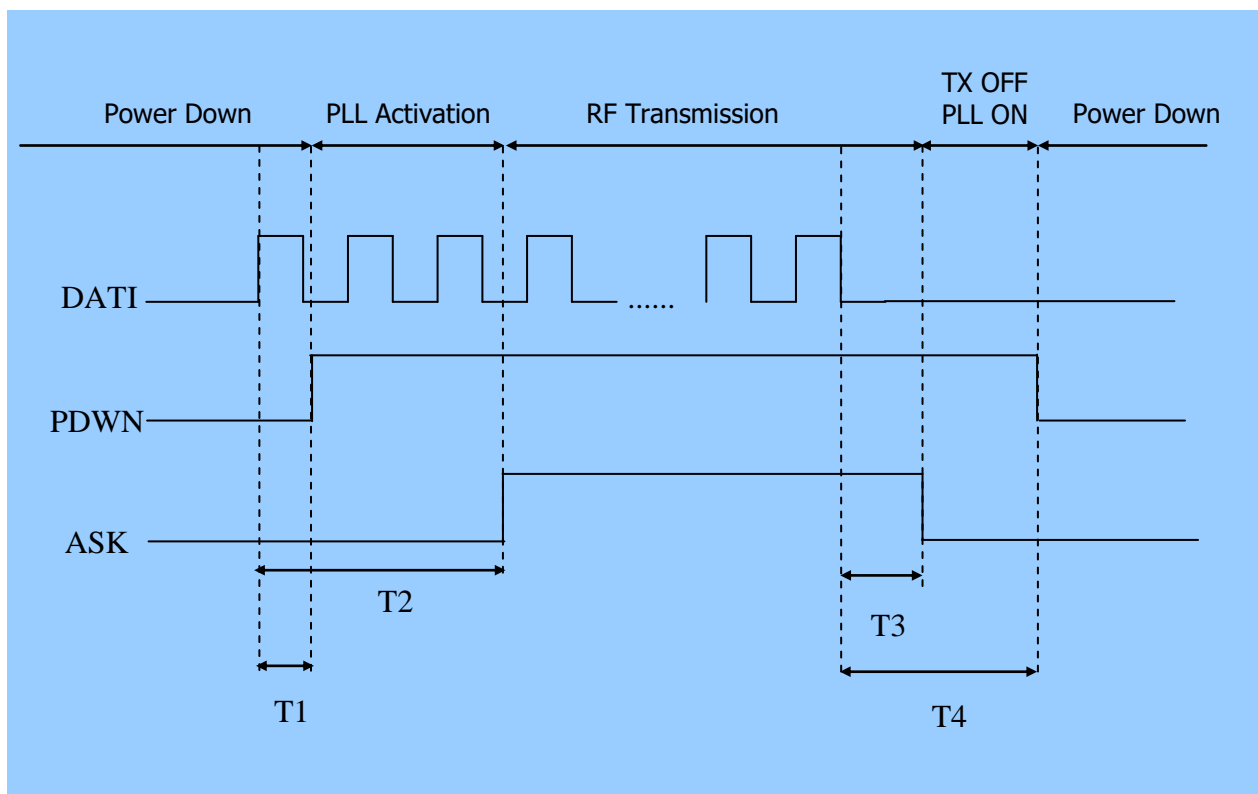

Fig.2
NOTE: only the signal DATA is available to pin 1 of the module, while the signals and ASK PWDN highlighted in the diagram time (Fig 2) are internal to the module, thus not available from the pins of the module itself, have been incorporated in order to clarifying timing and consumption on the different mode of operation.
1. A **whip** antenna, 16,5 mm long and approximately 1 mm dia, brass or copper wire made, must be connected to the RF output of the transmitter (pin 8), (see fig. 2).